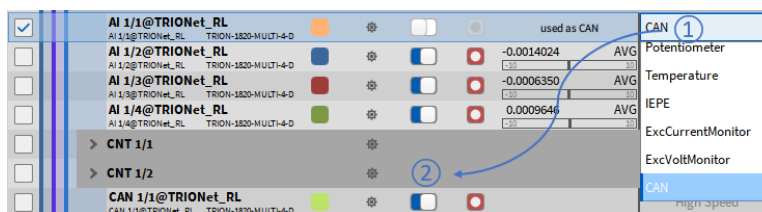

Fig. 7.202: Using the CAN port of a TRION-MULTI board
**Note:** When using the CAN port of a TRION(3)-18x0-MULTI or a TRION-2402—MULTI board, the CAN port is available on AI 1 of these boards. For accessing and using these CAN ports, you have to set the Input mode of AI 1 to CAN first and activate the dedicated CAN port second (see Fig. 7.202)